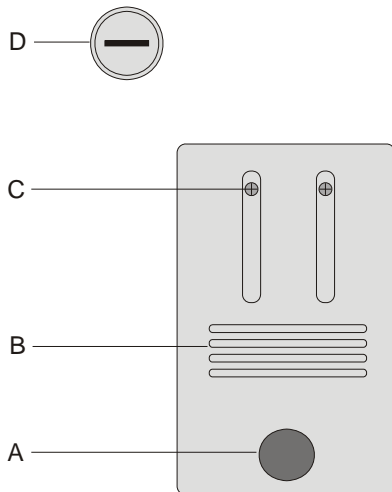

Fig. 1 Lamp socket cover: A - knurled screw, B - ventilation slot, C - securing screws of lamp-holder, D - fuse holder
- Loosen screw C of the lamp socket and push it outwards so that it is in the position shown in Fig.1.